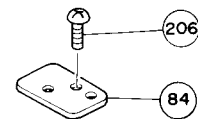
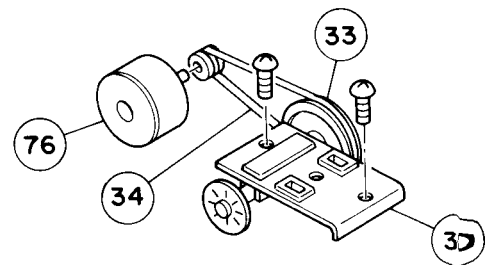

Figure 7
Figure 8
(1) After removing the cabinet top, remove position PCB Assembly "84" as shown in Figure 7.
(2) Remove the Belt "34" between Servo-controlled Motor "76" and Pulley "33".
(3) Remove the Bearing Assy "30" as shown in Figure 8.